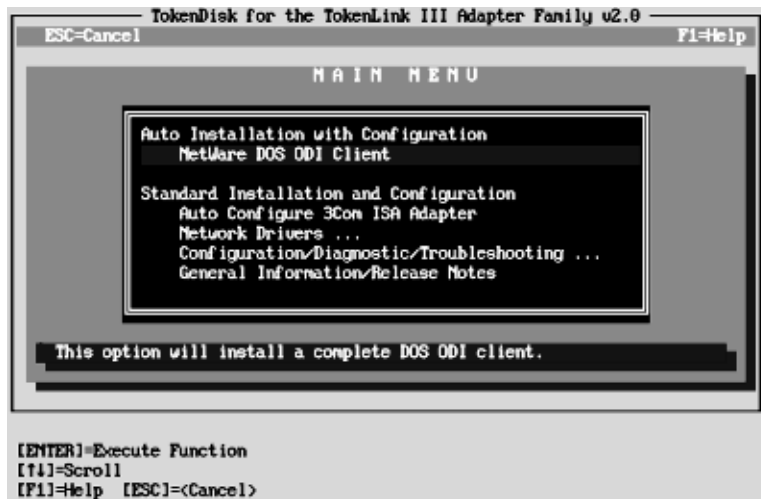

Figure 3-1. Main Menu
7. **When the main menu screen shown in Figure 3-1 appears, select NetWare DOS ODI Client and press [Enter].**